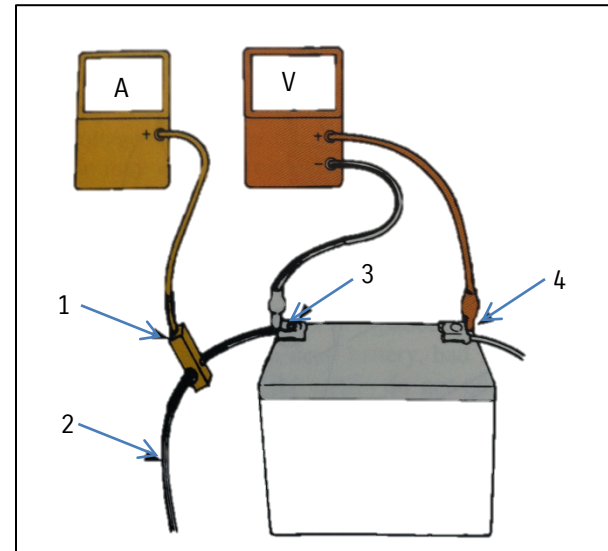

Figure 3
- Connect a voltmeter and inductive type ammeter to the vehicle battery as shown in figure 3.